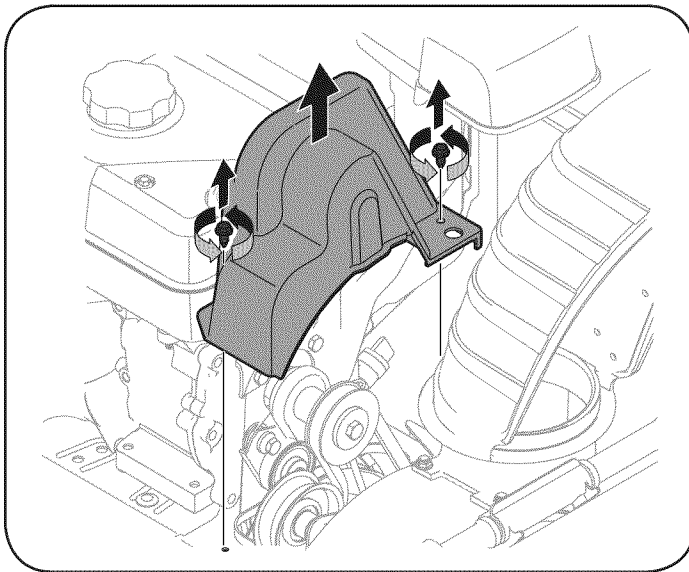

Figure 23
2. Remove the plastic belt cover on the front of the engine by removing the two self-tapping screws. See Figure 23.